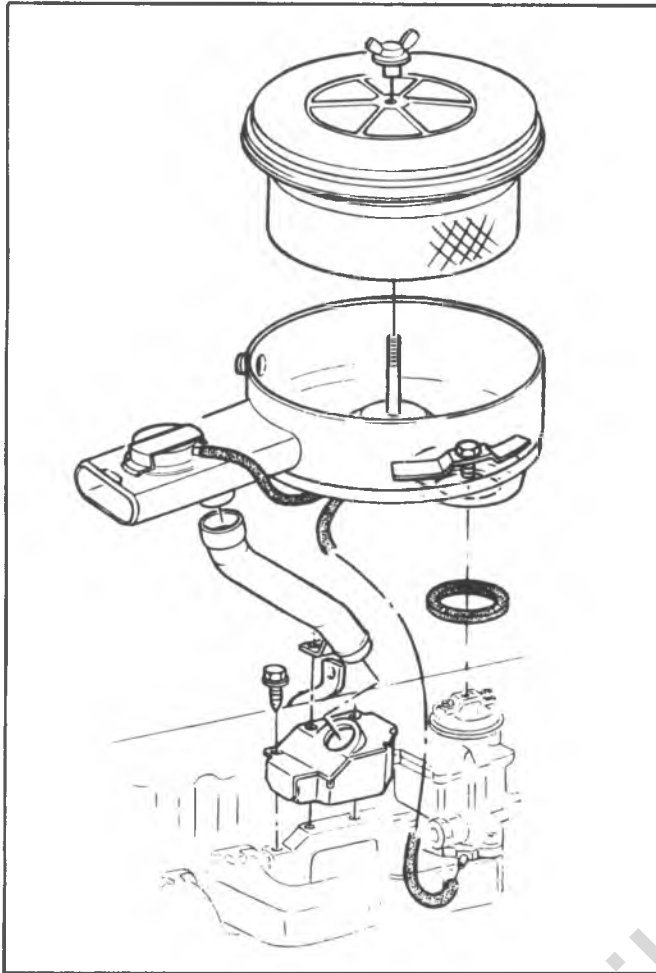

Fig. 6E-15—Air Cleaner-L6
Refer to figure 6E-17 for air cleaner used on CK truck with 305/350/400 V8 engine.
Refer to figure 6E-18 for air cleaner used on G truck with V8 engine.
Refer to figure 6E-19 for air cleaner used with 454 V8 engine.
Refer to figure 6E-20 for air cleaner used on P20(42), P30(42) and P30(32) truck with 350 V8 engine and 4MV carburetor.
Refer to figure 6E-21 for air cleaner used on 350 V8 diesel engine.